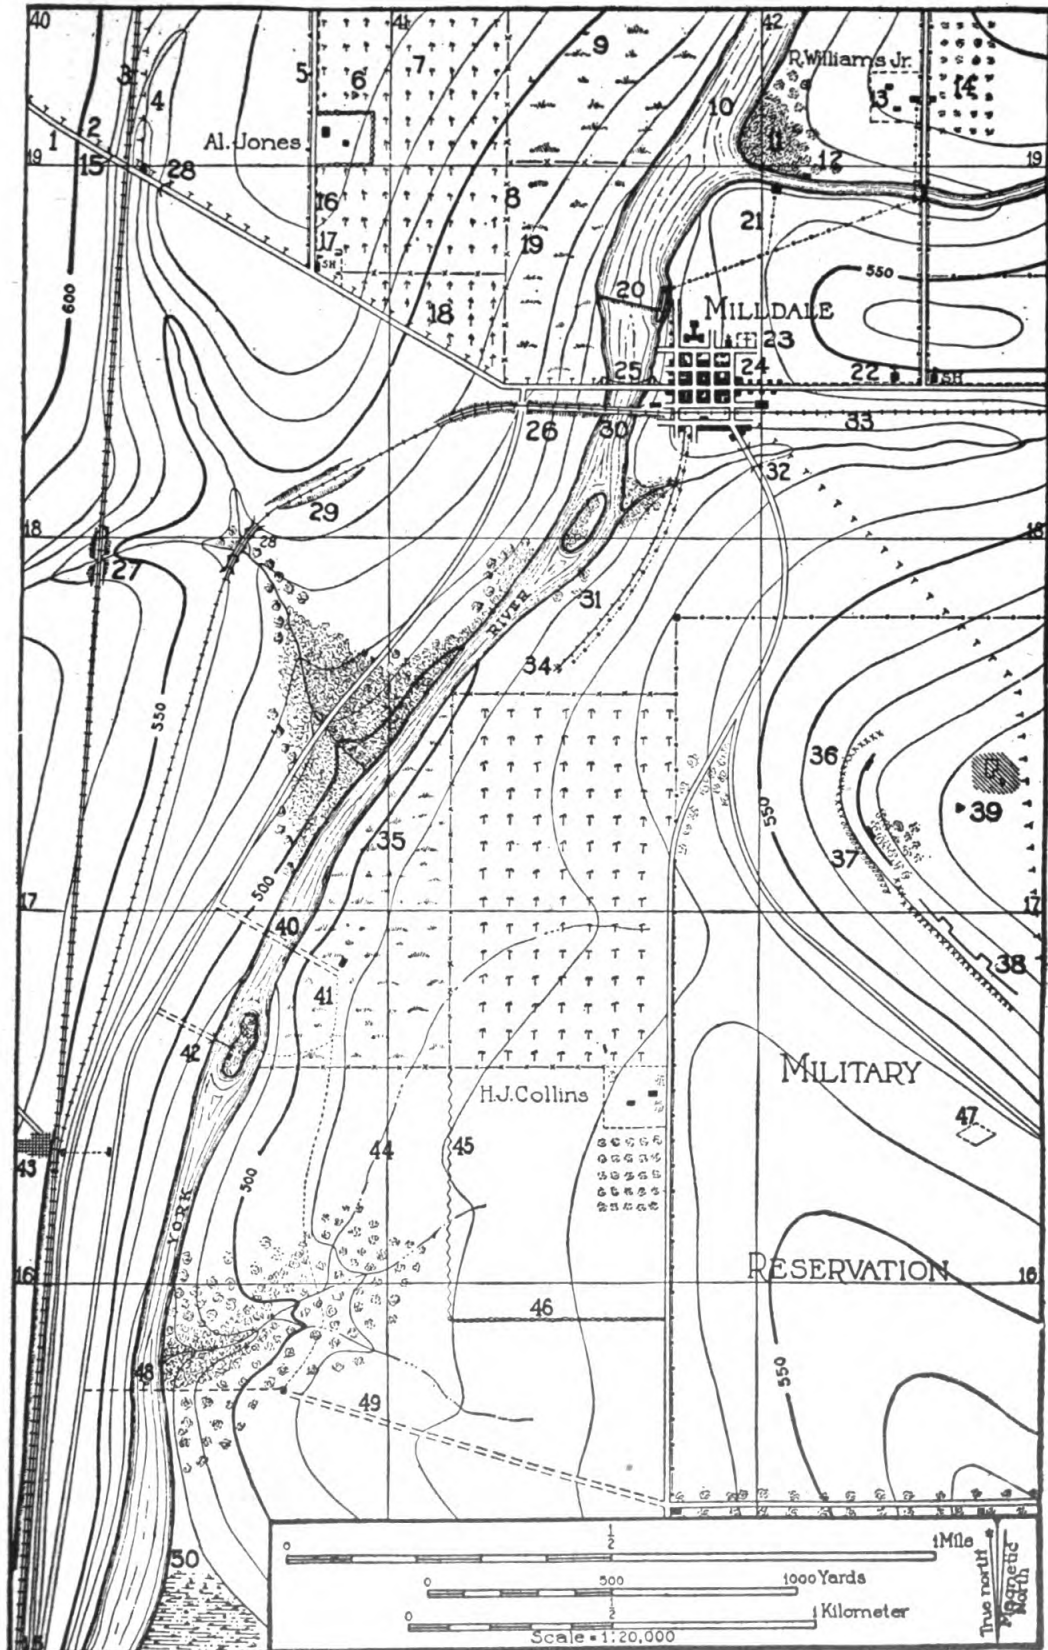

FIGURE 240.—Conventional signs.
that is, one 1,000-yard division of our scale will be 7.2 inches long. This can be divided into ten equal parts, each of which will represent 100 yards. (See fig. 240 for examples of graphical scales.)
- (1) A contour is a horizontal line joining points of equal elevation.
- (2) Contours are spread at uniform vertical intervals.
- (3) Every contour is a continuous closed curve. (It may not close within the limits of the map.)
- (4) There may be any number of separate contours of the same elevation.
- (5) A small, closed contour indicates either a hill top or a depression.
- (6) Contours never touch or cross each other except in the case of a vertical or overhanging cliff.
- (7) Contours are at right angles to the lines of steepest slope.
- (8) The horizontal spacing of contours indicates the degree of slope, steep if they are close together, gentle if they are far apart. They also indicate the kind of slope, uniform, concave, or convex.
- (9) Valley contours are usually of V-shape, and hill or ridge contours of U-shape.
- (10) Adjacent contours resemble each other.
Q. How is the elevation of a point between two contours determined? *A.* By its relative distance from the contours on either side. Thus in figure 240, the elevation of the number "46" is about 527 feet.
Q. Point out and name the conventional signs shown in figure 240.
A. See figure 240.
Q. How many norths are indicated on an artillery map? *A.* Three. True north, magnetic north, and grid north. (See fig. 240.)
(1) True north is geographic north, or the direction of the north pole.
(2) Magnetic north is the direction in which the compass points when used in the area covered by the map. The angular difference between true north and magnetic north is called the magnetic declination.
(3) Grid north is the direction in which the Y-lines of the coordinate system point.